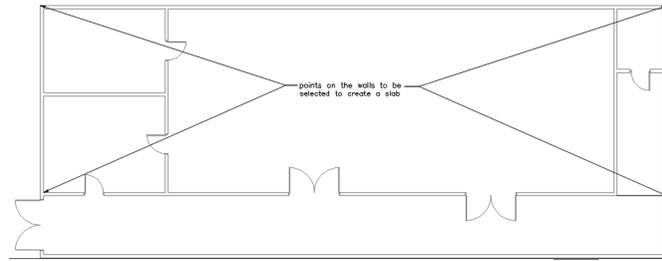

Figure 3-50 Corner points for the slab
- f. Create the stairs, refer to Figure 3-50.
Now, you need to create the slab with the specifications shown in Figure 3-50.
3. Select rest of the corner points as shown in Figure 3-50.